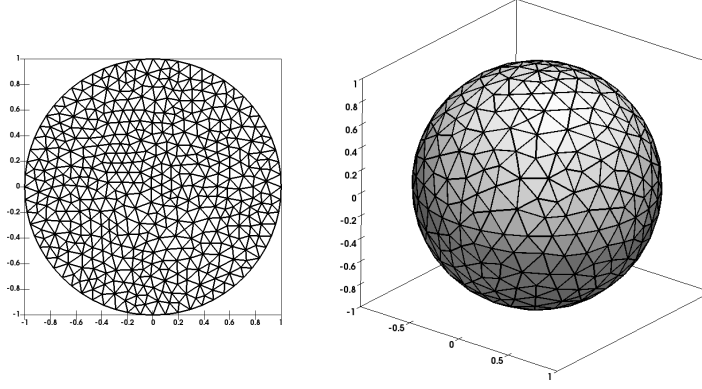

Figure 2: 2D and 3D mesh of a unit ball \mathcal{B}
Problem C.1. Set $\rho = 10$, $R = 0.5$, $r = 0.2$, $T = 20$ and implement a FEniCS solver to solve the problem (1)–(3) in a given 2D mesh `circle.xml` and 3D mesh `sphere.xml`, see Figure 2. Plot the solution at initial time $t = 0$ and the final time $t = T$ and motivate your plots.